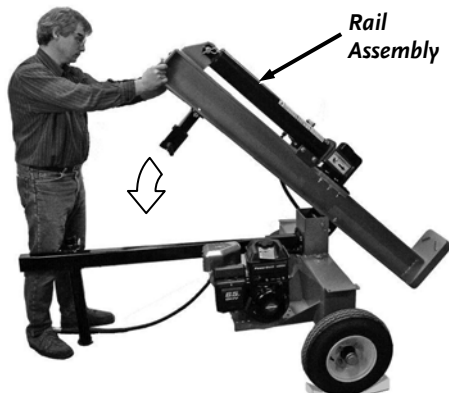

Figure 12
10. Block the wheels to prevent the base unit from moving. Carefully lower the rail assembly to horizontal position (**Figure 12**). Securely tighten the nuts holding the base unit to the rail assembly (Step 5) and the nuts holding the rail rest assembly (Step 8).